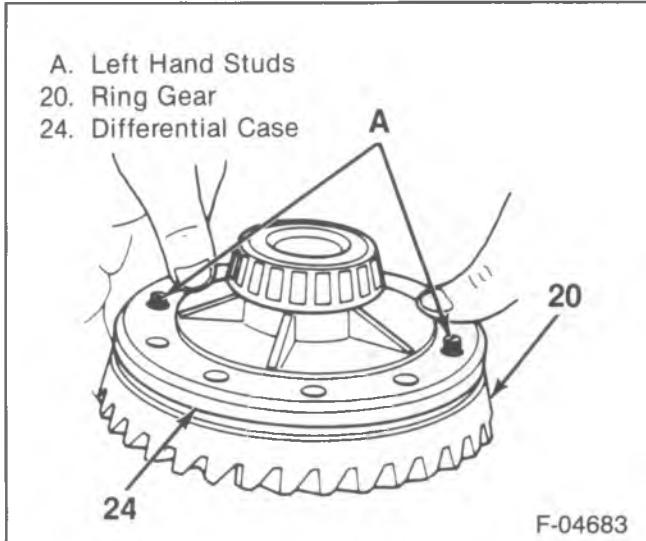

Figure 34—Ring Gear Studs
- 1. Side gear thrust washers (19) to the side gears (22).
- 2. Side gears (22) to the differential case (24).
- 3. Pinion gears (21) to the differential without the thrust washers (20).
- 4. Pinion thrust washers (20).
- 5. Ring gear (7) to the differential case (24).
- Thread two left-hand threaded studs into the ring gear on opposite sides (figure 34).